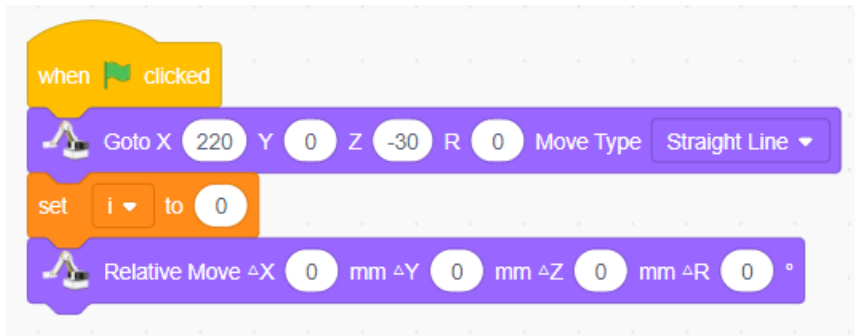

Figure 2.13 Relative motion blocks
- 1) Click the "**Motion**" tab and drag the "Relative Move" block to the code area, and put it together it with the previous block, as shown in Figure 2.13.